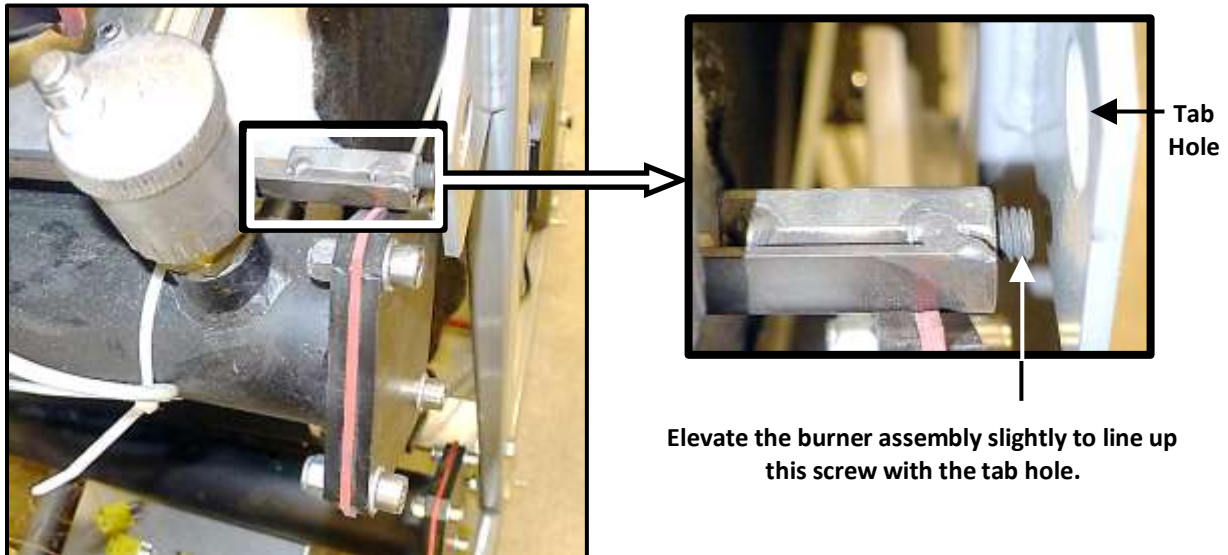

Figure 8-13: Location of Burner Assembly Lifting Screw (Step 9)
9. In order to hold up the burner assembly in place, lift up the front of the burner assembly until the two lift pins are aligned with the left and right side tab holes (refer to Figure 8-13).